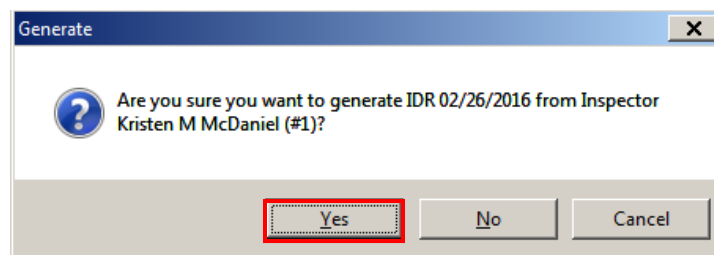

Figure 7-19. IDR Generate Confirmation Window
2. Click the **Yes** button on the Generate window (Figure 7-19). You will receive a Generate window for each IDR selected.